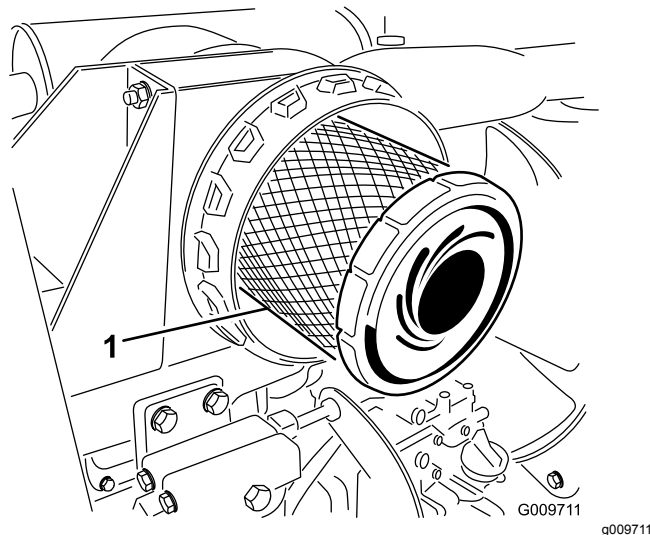

Figure 51
4. Remove and replace the primary filter (Figure 51).